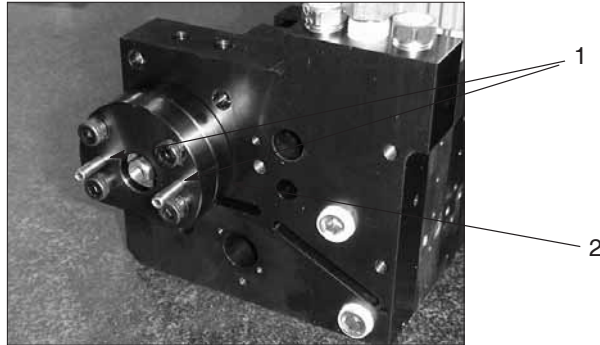

Figure 7-23 Location of the end-slice dowel pins
7. See Figure 7-23. Using an M5 hex wrench, remove the four pump packing assembly bolts and then remove the assembly.